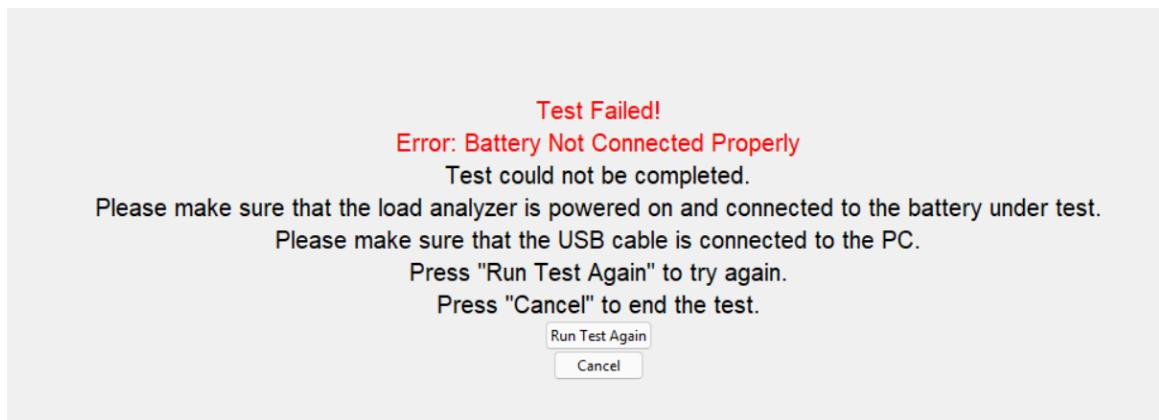

Figure 3.9 - Battery Connection Error Message (TS)
4a: If the battery is not connected properly, the error message in figure 3.9 will be displayed. Make sure the battery is set up as specified in section 1.5 of the User Manual and the USB port is connected properly. Once the setup is corrected, press the “Run Test Again!” button shown below to return to step 3 or press the “Cancel” button to end the test and go back to the main menu (TS).